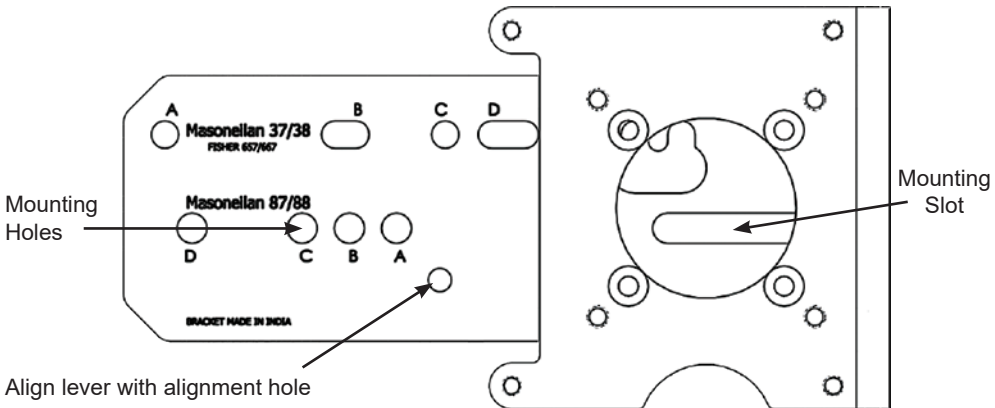

**Figure 15 - Standard Lever**
This section describes the procedure for mounting the SVI II APN on Reciprocating Valves, using Masoneilan's 87/88 Multi-Spring actuators as an example. Figure 15 shows the standard lever for all size installations.
3. Set rod-ends and brackets to stroke and size of actuator. The default setting is a 4.00" stroke. Other stroke settings are as in Figure 15 on page 25.